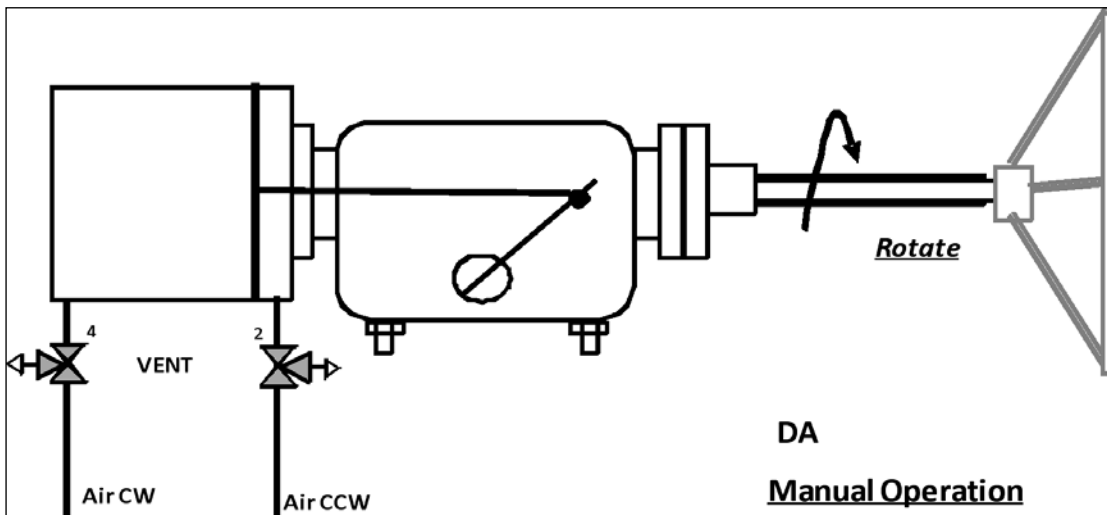

Fig.: 1 Install Jackscrew Override (DA)
2.2 Install jackscrew override onto heavy duty DA actuator (see Fig.: 1)